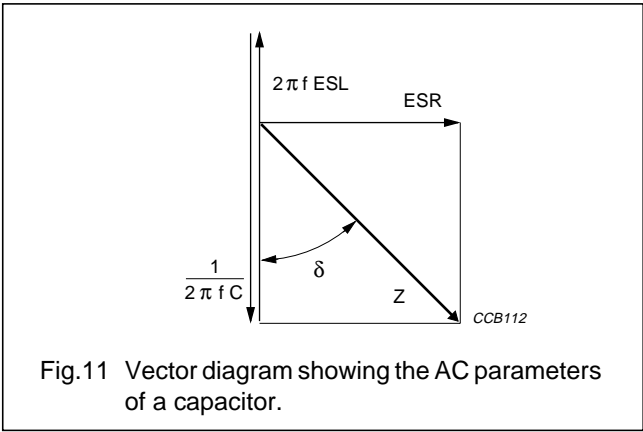

Fig.11 Vector diagram showing the AC parameters of a capacitor.
The impedance (Z) of an electrolytic capacitor is given by capacitance, ESR and ESL in accordance with the following equation (see Fig.11):